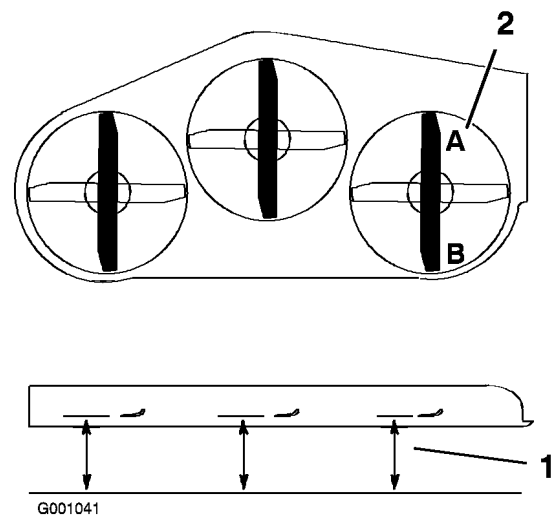

Figure 58
1. Position the right blade front-to-rear (Figure 58).
2. Measure the right blade at the **A** location, from a level surface to the cutting edge of the blade tip (Figure 58).
4. Measure the right blade at the **B** location, from a level surface to the cutting edge of the blade tip (Figure 58).
6. The mower blade should be a 1/4 to 3/8 inch (6 to 10 mm) lower at position **A** than at position **B** (Figure 58). If it is not correct, proceed to the following steps.